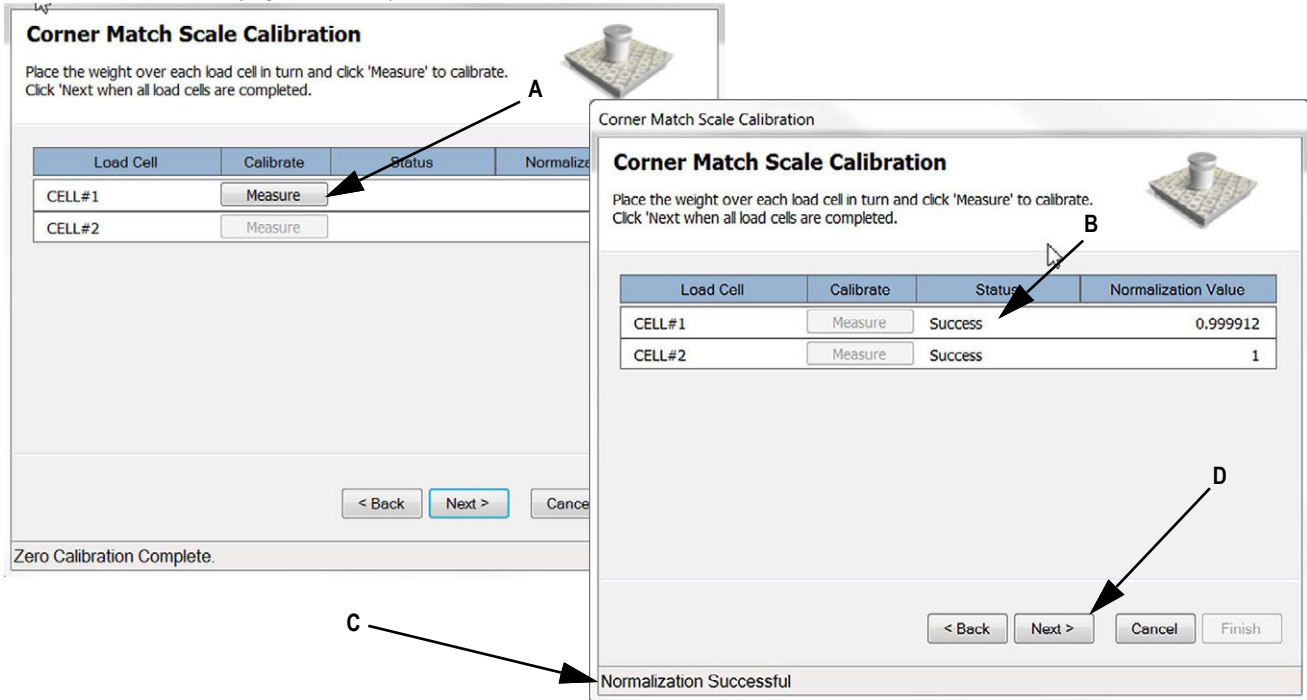

Figure 4-55. Load Cell Calibration
9. Press **Measure** (Figure 4-55 A).
10. Load Cell #1 Status will read "Success" (Figure 4-55 B) and Load Cell #2 **Measure** will become available. Repeat steps 9-11 for Load Cell #2.
11. When both load cells have been calibrated (status reads Success for both Cell #1 & #2, Figure 4-55 B) and the "Normalization Successful" message appears (Figure 4-55 C) press **Next** (Figure 4-55 D).